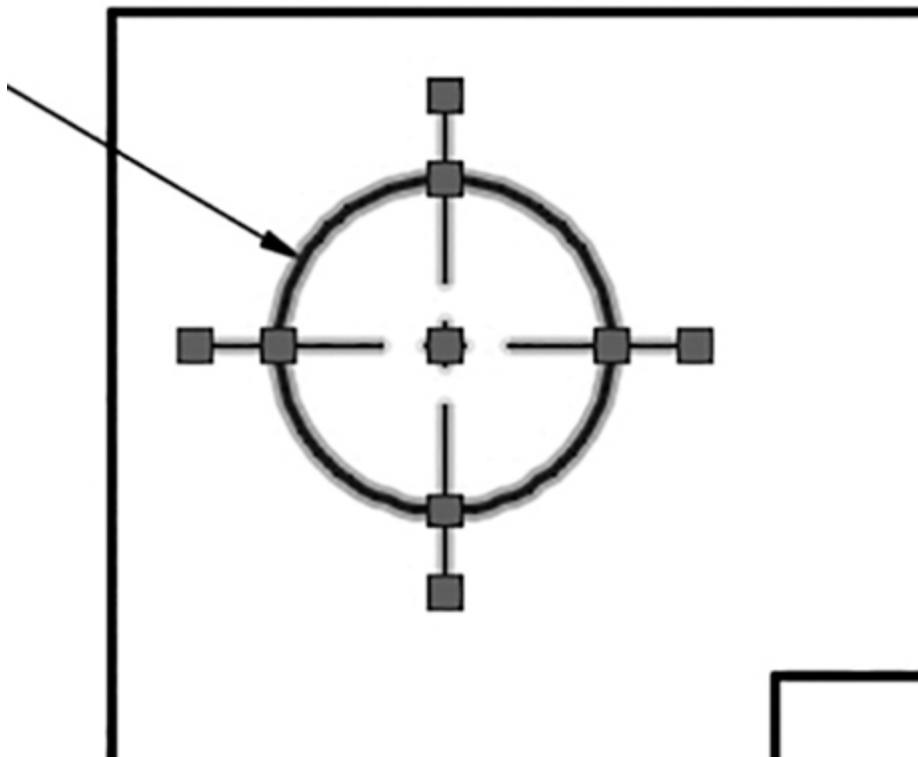

Figure 2-41
- 2 Select the two centerlines. Grips appear at the endpoints and midpoint of the lines. The grip at the center of the circle coincides with the midpoints of the two lines (see Figure 2-41).